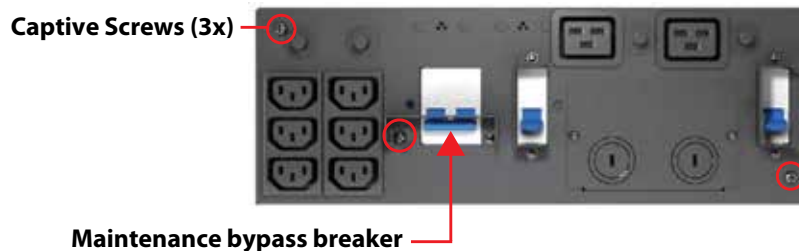

Figure 16: Power distribution box removal
1. Put the UPS in maintenance bypass by pressing the Standby/Manual Bypass button once (hold it for about 2 seconds) while the UPS is in Mains (AC) Mode. For help, refer to "8.4 Put the UPS in Manual Bypass".
2. Loosen one captive screw over the maintenance bypass breaker (see Figure 16 for the breaker's location).